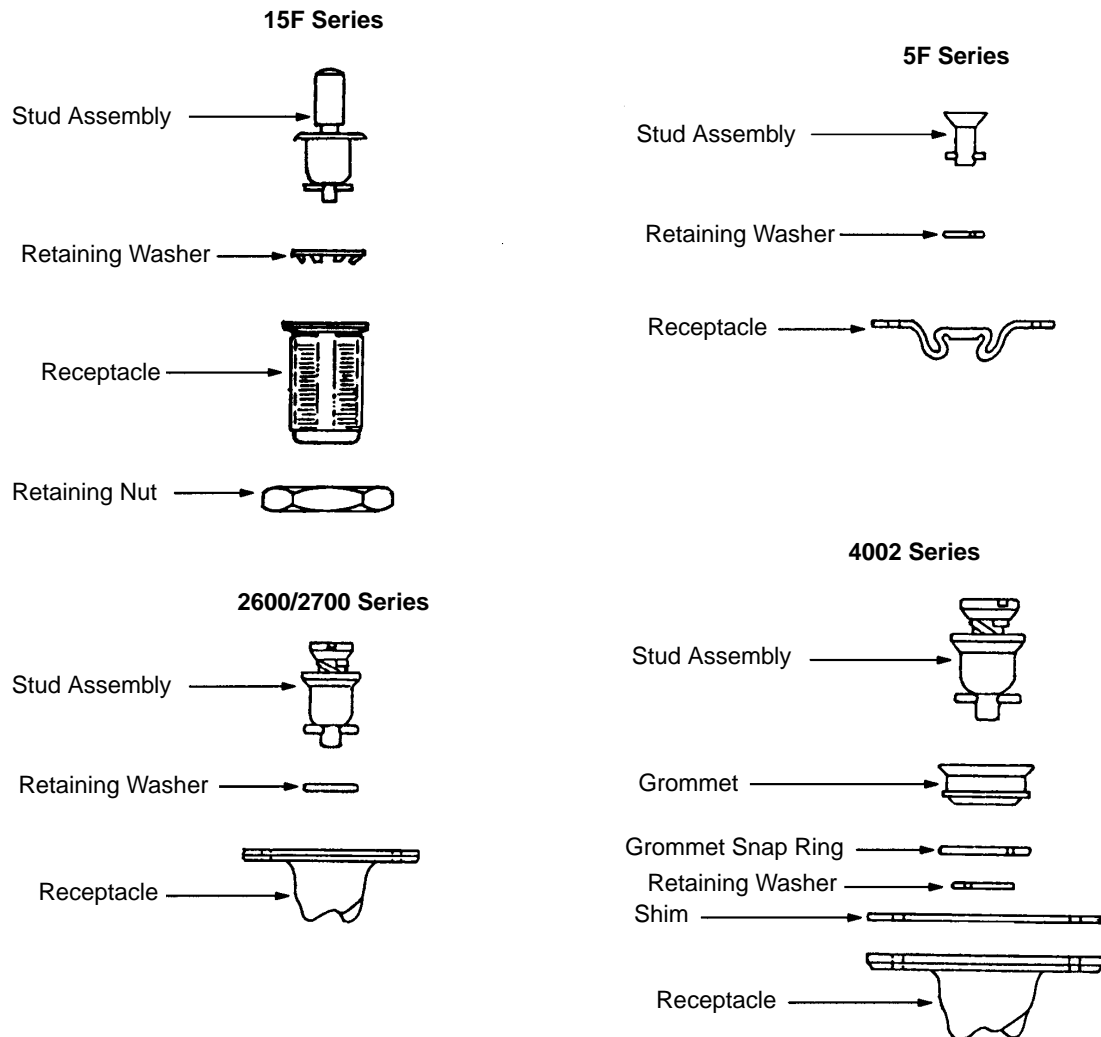

Figure 1 - General Description of Quick Release Fastener Assemblies
- 4.1.1 Quick release fastener assemblies as specified on the engineering drawing (see Figure 1), or replacement/substitution as allowed by BM9010.05 (EO7336).